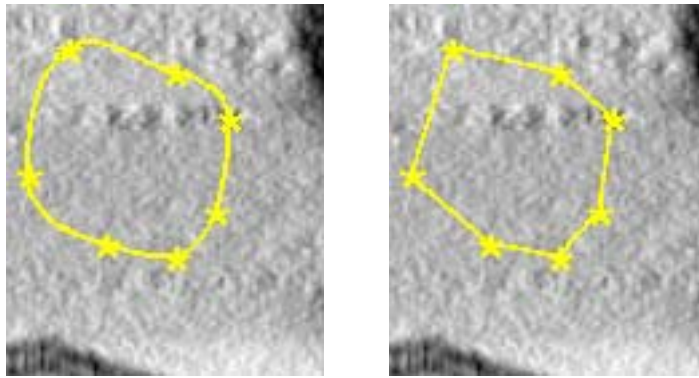

Figure 41: Spline connectivity (right) and Piecewise (left)
- The **Spline** method connects the anchor points with curved lines which are influenced by multiple neighbors; whereas, the **Piecewise** method draws straight lines between points. Figure 41 shows the exact same points with Spline and Piecewise connectivity.